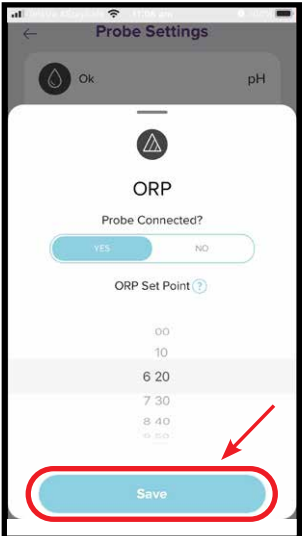

Figure 8.39
- Once your preferred set point is shown, press "save" (refer figure 8.39)